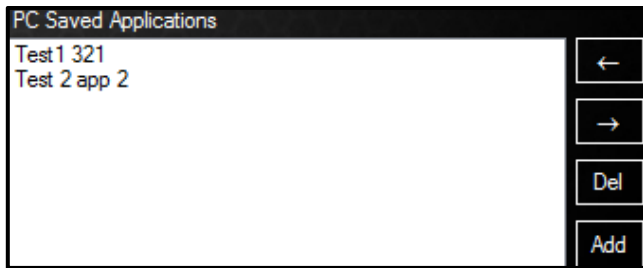

Figure 8.7-3: PC Saved Applications
1. Press the **"Add"** button (Figure 8.7-3).